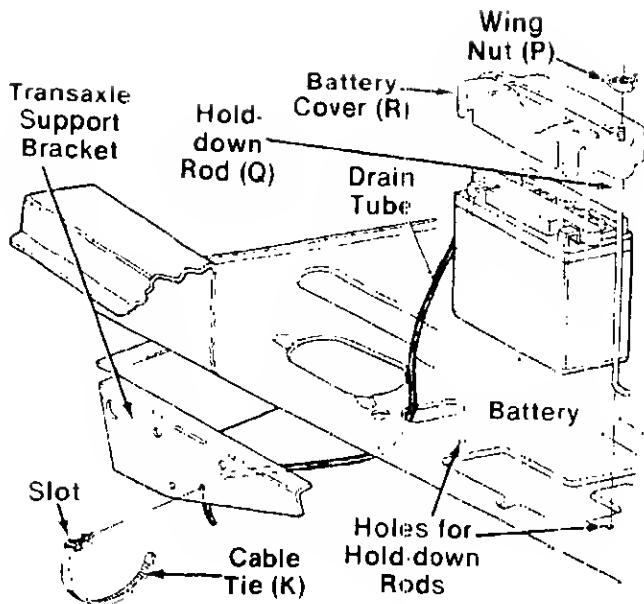

FIGURE 12.
1. Upon opening the battery pack, you should receive acid pack, battery, drain tube, filling adapter and hardware. See figure 12.
5. Secure the battery in place with battery cover (R) and hold-down rods (Q). Secure with two wing nuts (P). See figure 12.
6. Route the clear plastic drain tube down through the hole in the frame shown in figure 12.
7. Push the locking end of cable tie (K) through the hole in transaxle support bracket. See figure 12. Place the end of cable tie through the slot so a loop is formed around the drain tube to secure it. Tighten cable tie and cut off excess end.